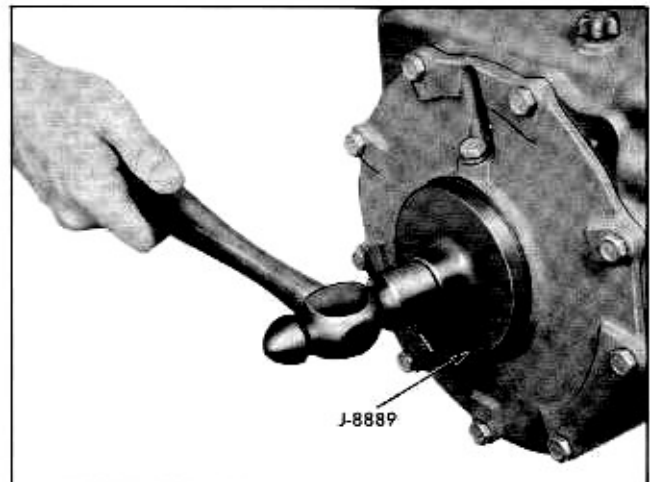

Fig. 4-5 Installing Side Bearing Oil Seal
8. Install new side bearing oil seal using Tool J-8889 installer (Fig. 4-5). Coat lip of seal and splines with hypoid oil to help prevent damage to seal by splines of the U-joint yoke.